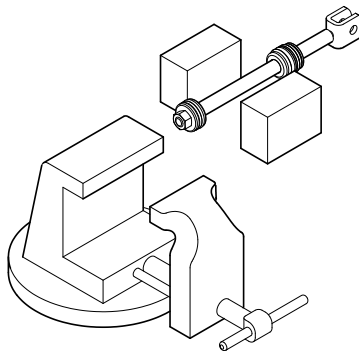

Figure 4-6, Cylinder Shaft
5. Clamp the rod assembly in a soft jawed vise on the wrench flats, not on the rod surface. If the rod does not have wrench flats use two pieces of wood on both sides of the rod to prevent scarring. (Figure 4-6)